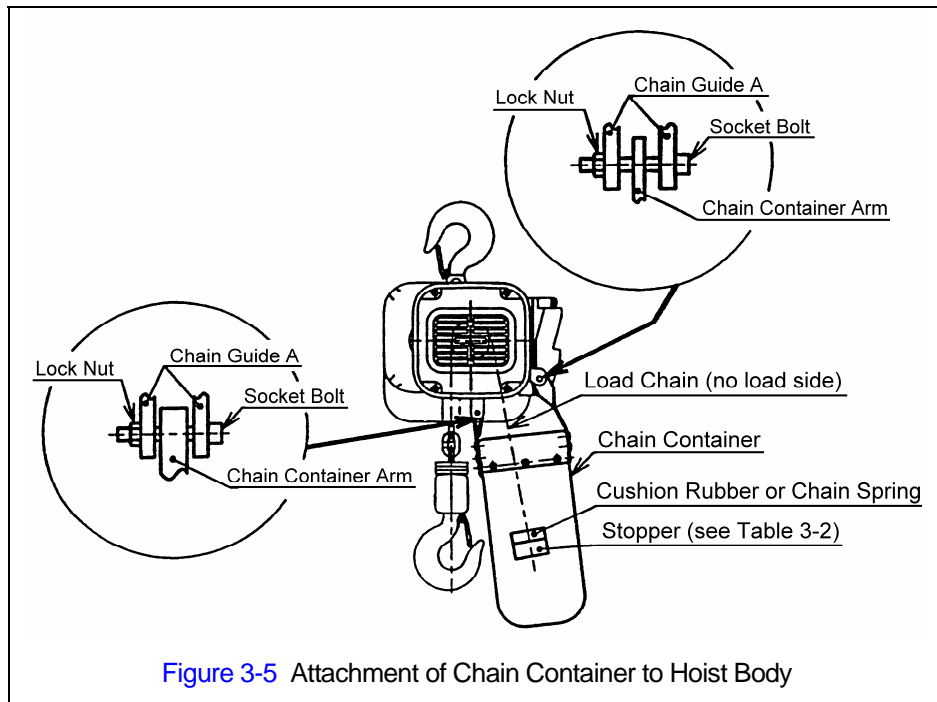

Figure 3-5 Attachment of Chain Container to Hoist Body
3.2.3 When the optional canvas chain container is used, unfold it fully and install it on the hoist body as shown in Figure 3-5. In this case the free end of the chain is not attached to the hoist body and the chain stopper is installed on the third link from the free end. To place the chain into the chain container, feed the chain into the chain container beginning with the free end. Take care to avoid twisting or tangling the chain. NEVER put all the chain into the container at once. Lumped or twisted chain may: